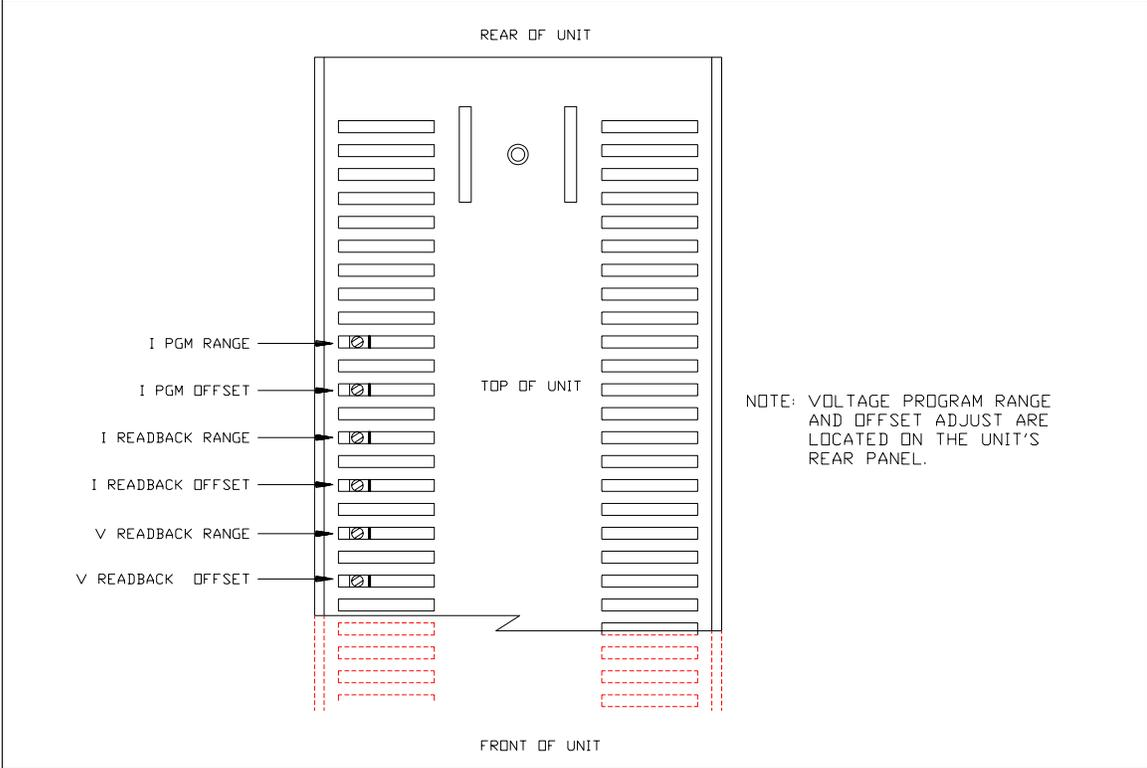

Figure 2.3 APG Interface Calibration Adjustment Locations
You can access most calibration potentiometers through the top of the unit, see Figure 2.3. The exceptions are Voltage Program OFFSET and RANGE which are on the unit's rear panel which can be seen on Figure 2.2.
Access the zero offset adjustment and full range scale adjustment through top cover slots as shown in Figure 2.3, pg. 17.
**Note:** The voltage and current readback signals have adjustable offset and range. These adjustments are accessible from the top of the power supply (see Figure 2.3, pg. 17). The adjustments are independent of other power supply calibrations or adjustments such that APG readback can be zero and range calibrated without affecting other power supply parameters.